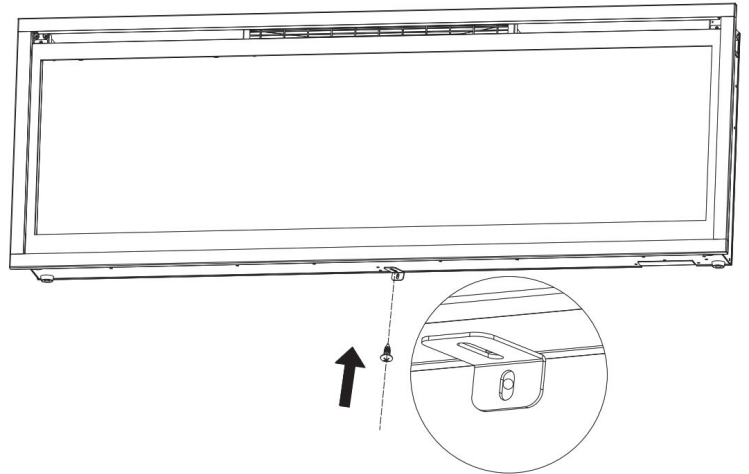

Fig 3-2
B.Using the screw previously removed, attached the L-bracket (supplied) to the bottom of the fireplace box. (**Fig 3-2**)